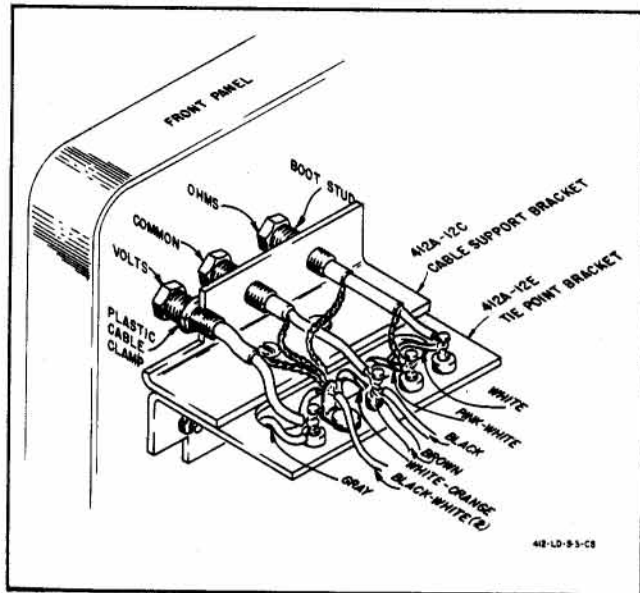

Figure 2.  Model 412A (Cabinet Mount)
8. Solder wires (not input cables) to tie points as indicated in Figure 2.
14. Solder the input cable wires as shown in Figure 2.